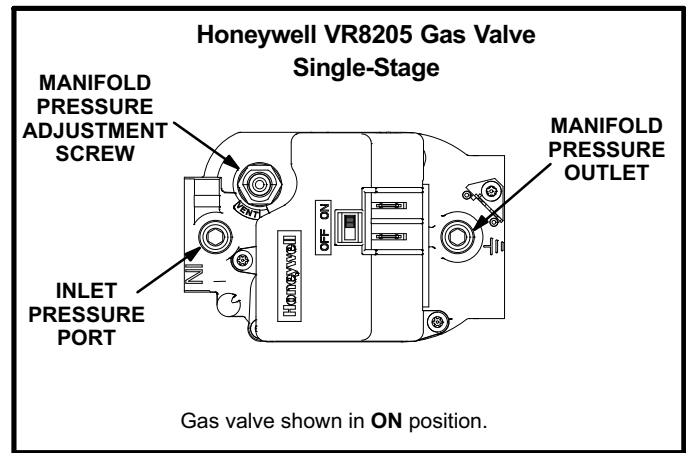

FIGURE 14
The gas valve is adjustable for both low fire and high fire. Figures 14 and 15 show gas valve components. Table 7 shows factory gas valve regulation pressures.
### Gas Valve Operation (figure 14 and 15)
- 5- Move gas valve switch to **OFF**. See figure 14 or 15.
- 6- Wait five (5) minutes to clear out any gas. If you then smell gas, **STOP!** Immediately call your gas supplier from a neighbor's phone. Follow the gas supplier's instructions. If you do not smell gas, go to the next step.
- 7- Move gas valve switch to **ON**. See figure 14 or 15.